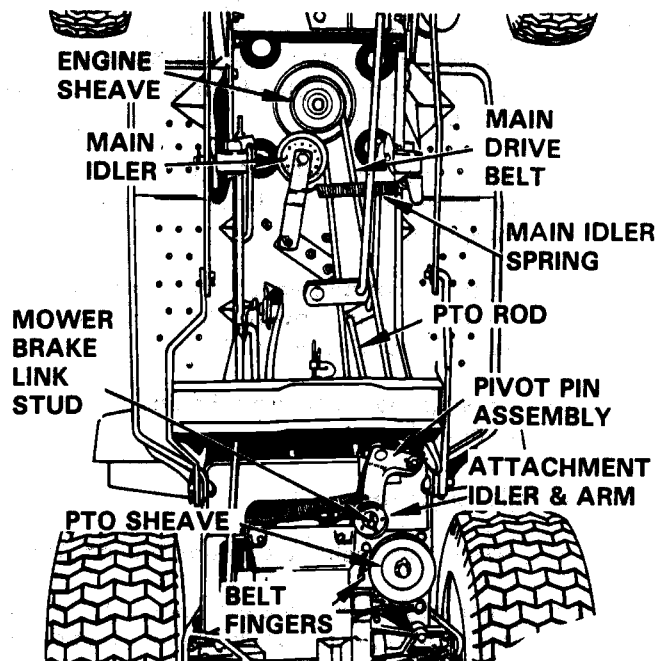

FIGURE 11
DRIVE BELT REPLACEMENT — FIGURES 11 & 12
1. Loosen fasteners holding two belt fingers near PTO Sheave and rotate fingers away from sheave. See Figure 11.
7. Remove hair pin and Mower Brake Link from Attachment Idler. See Figure 11.
8. Disconnect Attachment Idler spring from anchor on right side of transaxle. (Use vise grips). See Figure 11.
9. Remove cotter pin, washer and PTO Rod from the Attachment Idler arm. Figure 11.
20. Slide rear of belt ahead and between upper traction and lower Attachment Idler assemblies. See Figure 11.
6. Feed PTO Rod between Main Drive Belt lengths and install end through hole in Attachment Idler Arm. See Figure 11.
13. Reconnect Main Idler Spring to anchor hole on left side of frame. Be sure Main Idler is on backside of Main Drive Belt and spring is above steering link. See Figure 11.